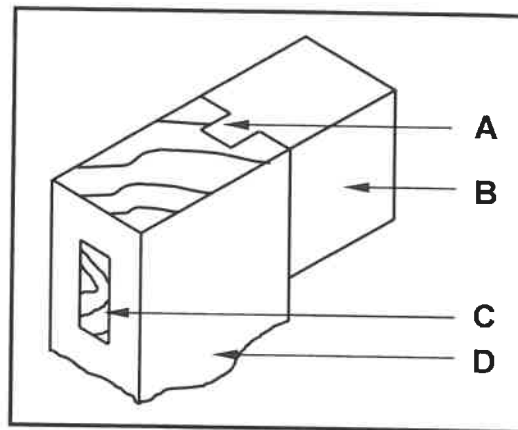

FIGURE 6.8
- 6.8 FIGURE 6.8 below shows the assembled view of a haunched mortice and tenon joint. Study the drawing and name parts **A** to **D**.